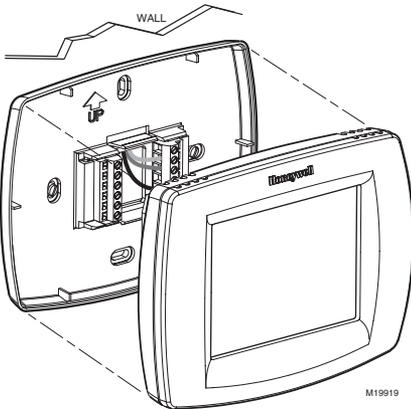

Fig. 13. Mounting thermostat on wallplate.
2. Push the thermostat straight onto the wallplate. See Fig. 13.